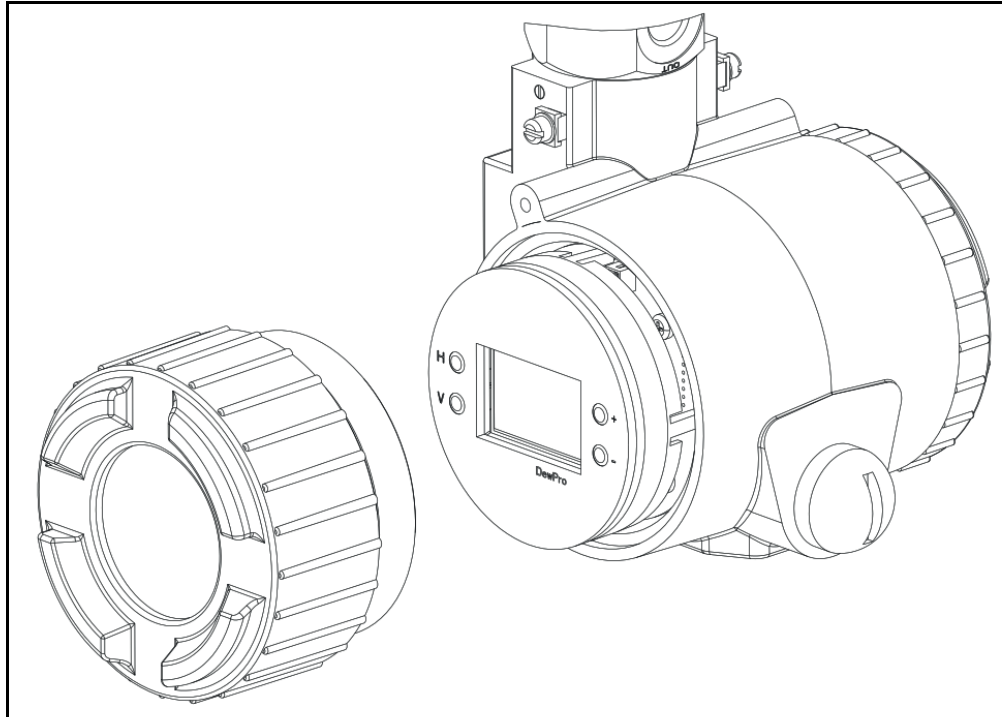

Figure 14: DewPro MMY30 with Display/User Interface
1. Unscrew and remove the protective lid from the top of the DewPro MMY30 (as shown in *Figure 14* above), exposing the display module below. The buttons V, H, + and – are now accessible.